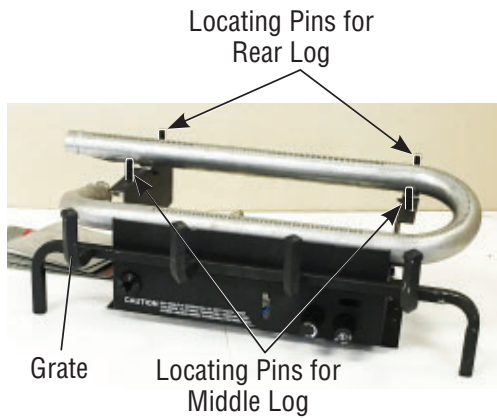

Figure 31 - Locating Pins
1. Align the holes in the bottom of the rear log (#1) over the rear locating pins, and gently adjust down until it is fully seated (see **Figures 31 and 32**).
2. Align the holes in the bottom of the middle log (#2) over the middle locating pins, and gently adjust down until it is fully seated (see **Figures 31 and 33**).